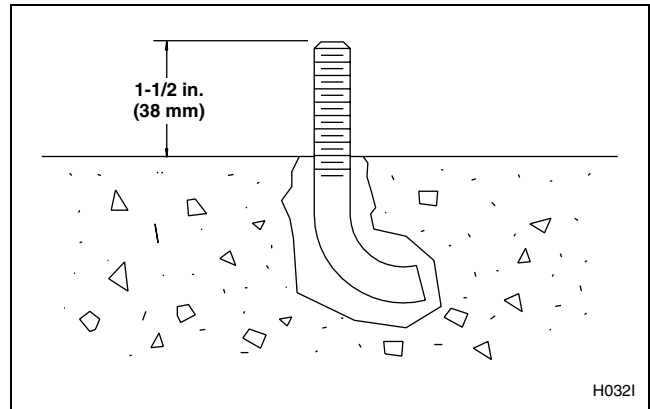

Figure 15
5. Use compressed air or a squeeze bulb to remove debris from each hole. Anchor J-bolt in place, using an industry-accepted anchoring compound. Verify that the J-bolts are in the correct locations and that 1-1/2 inches (38 mm) of each J-bolt protrude from the floor. Refer to *Figure 15*.